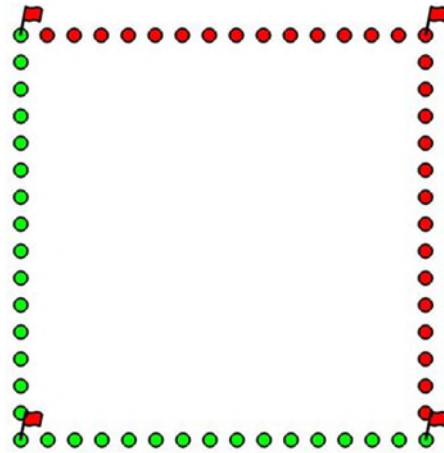

Figure 7-6: Marking ending positions
**Step 4 – Mark the End Positions** – if you are doing a forward only grid, it is recommended to mark the end positions (Figure 7-6). You will need to aim for something to make sure your line is straight.